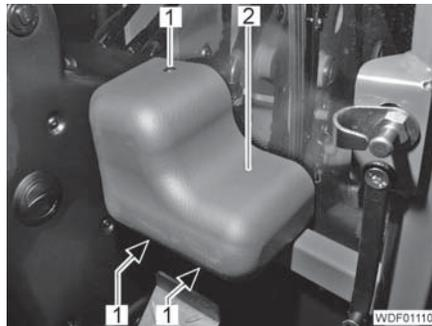

Fig. 391 Cover attachment
- Unscrew the 3 screws (Fig. 391,1).
- Remove the cover (Fig. 391,2).
- Place on the cover (Fig. 391,2).
- Screw in and tighten the 3 screws (Fig. 391,1).